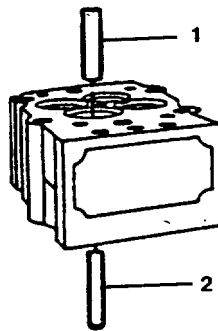

FIGURE 4-24. Valve Guide Removal.
- (1) Use a valve guide mandrel (1, FIG. 4-24) and a valve guide arbor press to remove the valve guide (2).
- (2) Measure inside diameter of guide bore. Verify inside diameter is between 0.8435 inch (21.425 mm) and 0.8445 (21.450 mm).